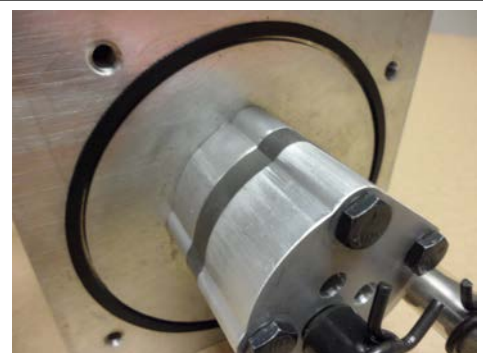

Figure 6 New pump installed, O-Ring in recess.
- 7) Install new pump assembly. Use caution when pushing shaft through the shaft seal assembly so as to not damage the shaft seal. Tighten the new bolts to 5-7 foot pounds using a torque wrench. (See Figure 6)
- 9) Check the O-Ring (part #3510000266) installed in the port plate recess and make certain it sits inside the recess. (See Figure 6)